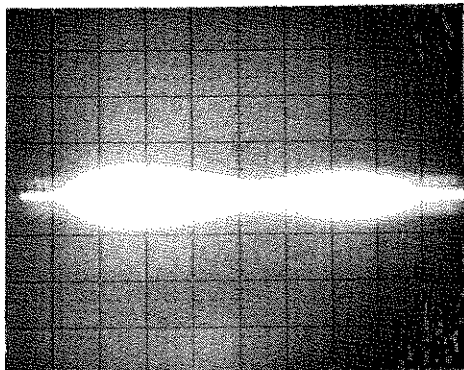
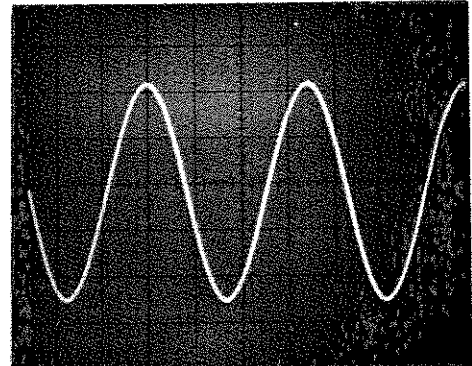

Figure 3-5. Single-shot trace bloom caused by INTENSITY and/or PERSISTENCE set too high
Figure 3-6. Single-shot display with INTENSITY and PERSISTENCE set the same as figure 3-5 and increased amplitude
Trace blooming (figure 3-5) indicates excessive INTENSITY that can damage the CRT. Blooming does not occur in the CONV mode. Do not increase intensity when in CONV mode. Always repeat above procedure each time sweep speed or input signals change.
- f. Bloom. A visible, non-symmetrical expansion of a display written on the CRT screen, figure 3-5.
persistence. For example, with maximum PERSISTENCE and some settings of INTENSITY, a single-shot straight-line trace may bloom as shown in figure 3-5, while a single-shot signal with amplitude variations of several divisions may not cause blooming (figure 3-6). To determine the best INTENSITY setting, connect a signal which approximates the sweep time and amplitude of the single-shot signal to be written. Set PERSISTENCE fully cw and trigger a single sweep of the test signal. Set the INTENSITY as far cw as possible without causing blooming. Repeat the single sweep signal, erasing the display and setting the INTENSITY after each trace until the desired display is obtained. This setup should give maximum persistence to the single-shot display. After the single-shot signal has been written, the display may be retained by pressing STORE and setting the TIME control to MAX.